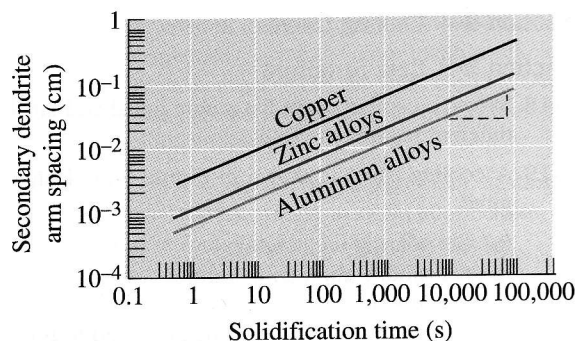

Figure 9-9 (Repeated for Problem 9-16) The effect of solidification time on the secondary dendrite arm spacings of copper, zinc, and aluminum.
- 9-16 Design the thickness of an aluminum alloy casting whose length is 12 in. and width is 8 in., in order to produce a tensile strength of 40,000 psi. The mold constant in Chvorinov's rule for aluminum alloys cast in a sand mold is 45 min/in². Assume that data shown in Figures 9-9 and 9-10 can be used.